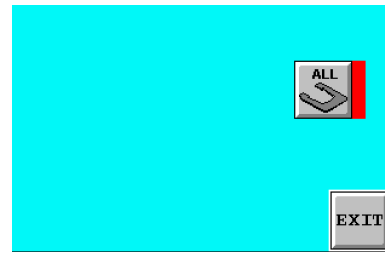

Fig.14
- 16.1.1 Press button “ALL”  on the main screen (Fig. 6). The jig components releasing screen will appear as fig. 14